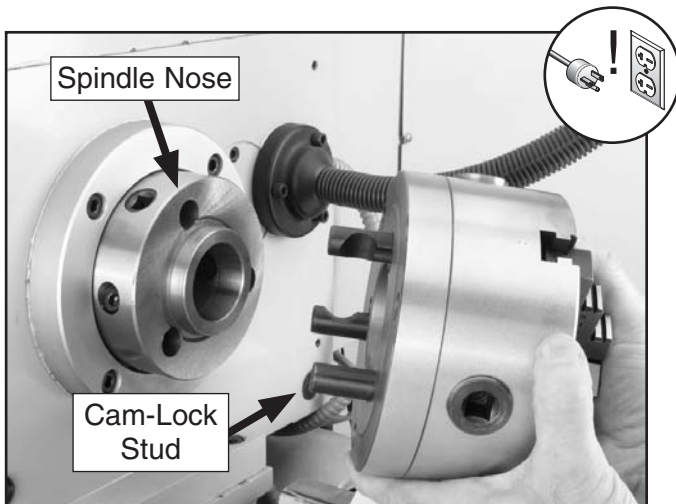

Figure 25. Example of removing the 3-jaw chuck from the spindle nose.
5. With a rocking motion, carefully remove the chuck or faceplate from the spindle nose, as shown in **Figure 25**.
4. Position the chuck or faceplate in front of the spindle nose with the cam-lock studs aligned with the sockets, then carefully insert the chuck or faceplate onto the spindle (see **Figure 25**).